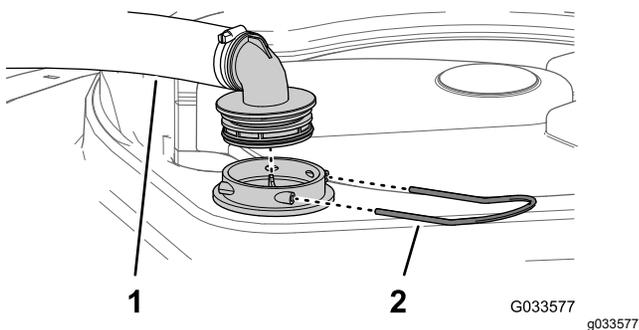

Figure 109
2. At the top of the sprayer tank, remove the retainer that secures the hose fitting attached to the large hose from the filter housing (Figure 109).
3. Remove the hose and hose fitting from the filter housing (Figure 109).